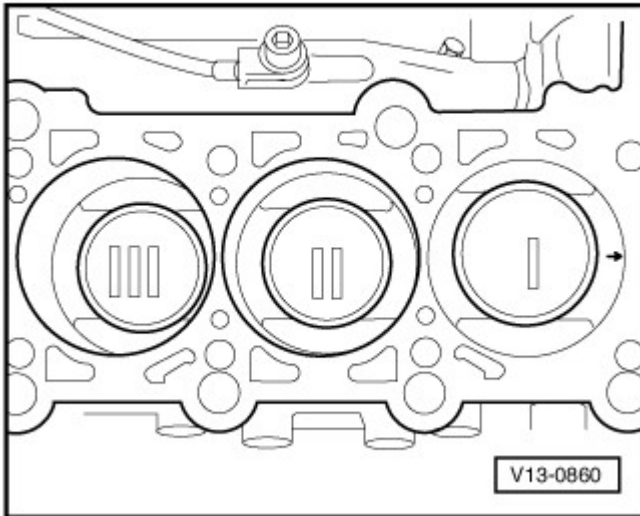

Fig. 12: Identifying Piston Position
- Mark installation position and cylinder allocation, refer to **Fig. 12**